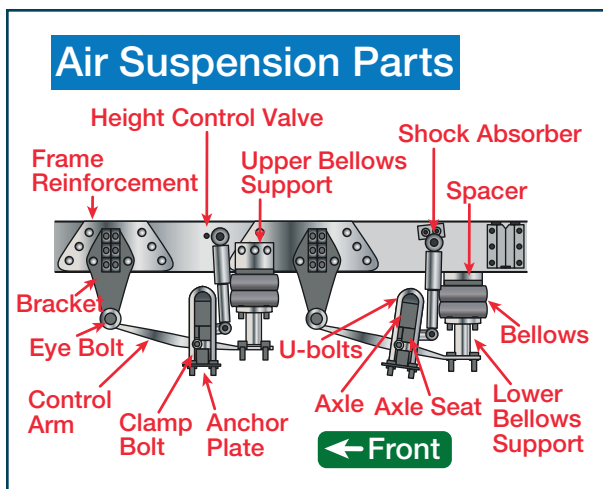

Figure 2.4
- Air suspension systems that are damaged and/or leaking (See Figure 2.4.);